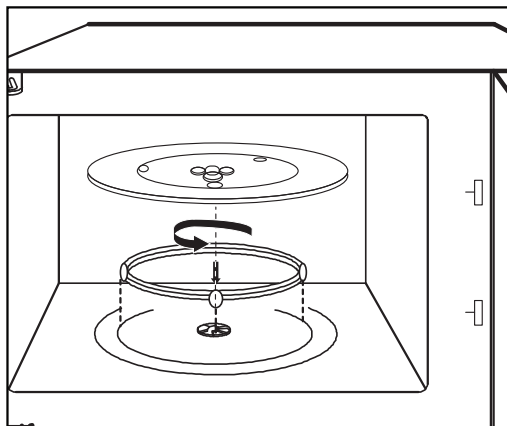

Fig. 2
- > Never place the glass tray upside down. The glass tray should never be restricted (see Fig 2).